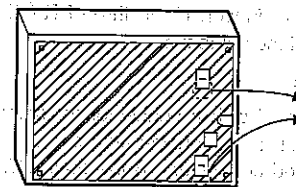

Fig. 5
- ① Choose a flat table:
- ② Lay down the drawer so that the left side faces downward.
- ③ With the cushion areas of the fixtures directed to the drawer bottom, insert them in two holes at the left side (looking from the front) so that the drawer bottom plate can be inserted in the U-shaped grooves of the fixtures. These fixtures must be fitted in the same direction and level. (See Fig. 5)